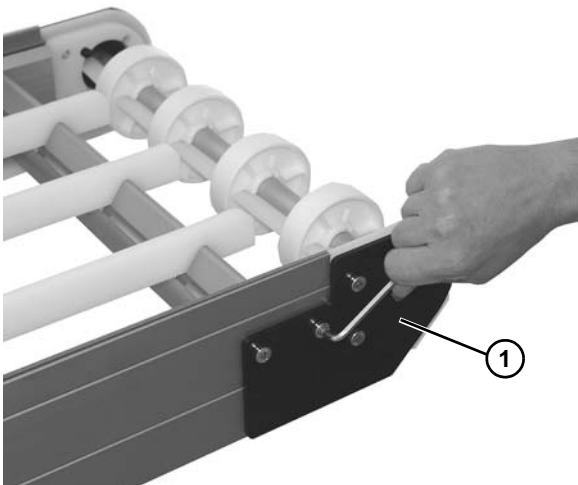

Figure 36
1. Remove conveyor idler end (Figure 36, item 1). See “C - Idler Spindle Removal” on page 23.